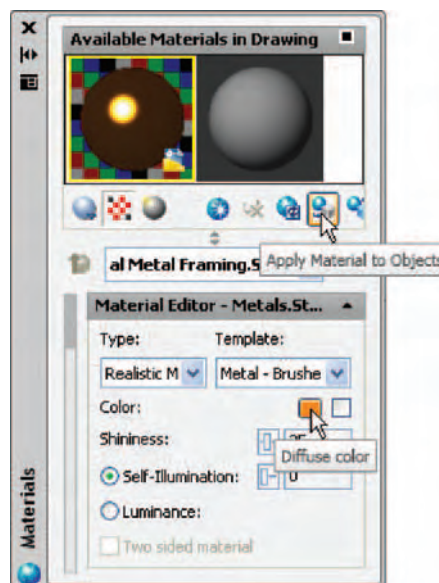

Fig. 15.34 The **Materials** palette showing the applied material
2. Click The **Materials** icon. The **Materials** palette appears showing an icon of the applied material (Fig. 15.34). In the palettes *click* the
3. Click **Apply Material to Objects** icon (Fig. 15.34).